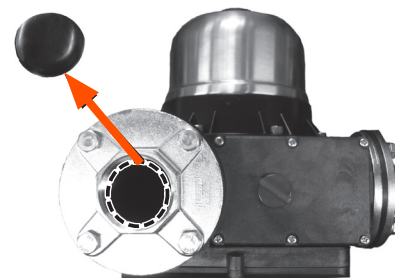

Fig. 2
6. Please cut out the center of the rubber gasket inside the inlet and outlet flanges as it will block the water flow. (See Fig 2)